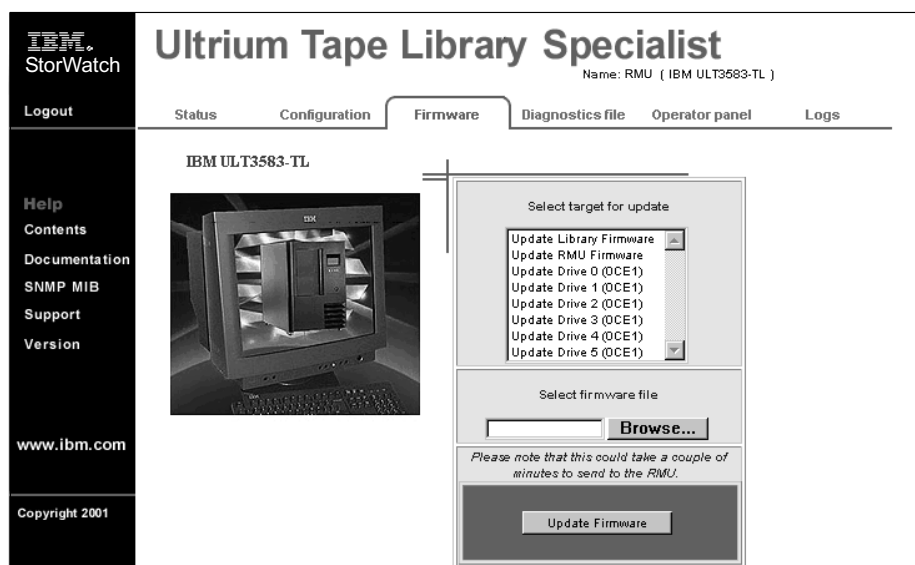

Figure 70. RMU firmware page
3. Open the RMU web page and select the Firmware tab, login if necessary (see Figure 70).